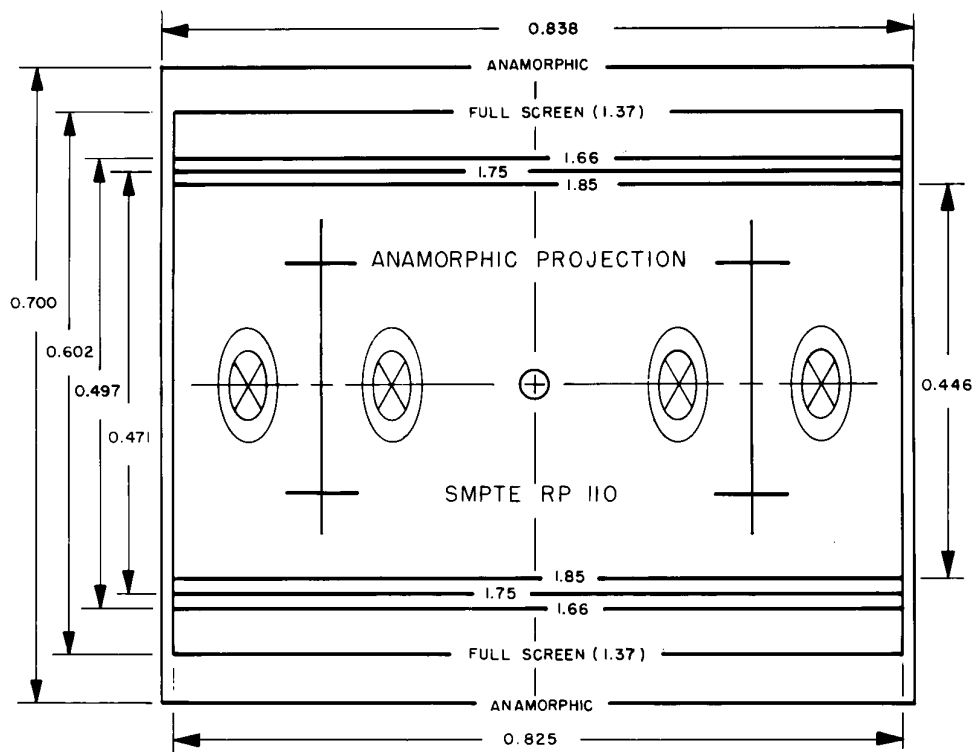

Figure 2 – Test chart dimensions
3.2 A chart showing the dimensions as measured on the test film is shown in figure 2.